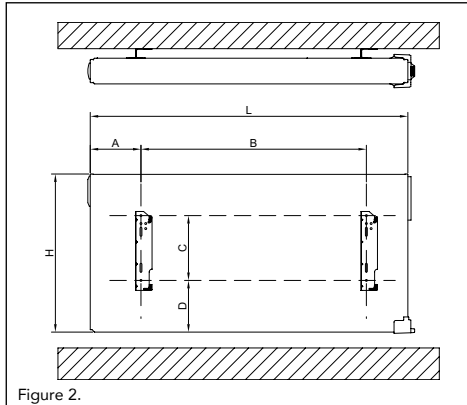
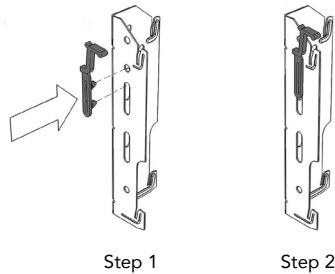

Figure 2.
Figure 3.
- Mark out the distance between the brackets and the positions for the screw holes as shown in figure 2 and the dimension tables at the top of page 7, and ensure the safety clips are used (see figure 3).
Electrorad Digi-Line Single Panel (refer to figure 2)
Electrorad Digi-Line Double Panel (refer to figure 2)